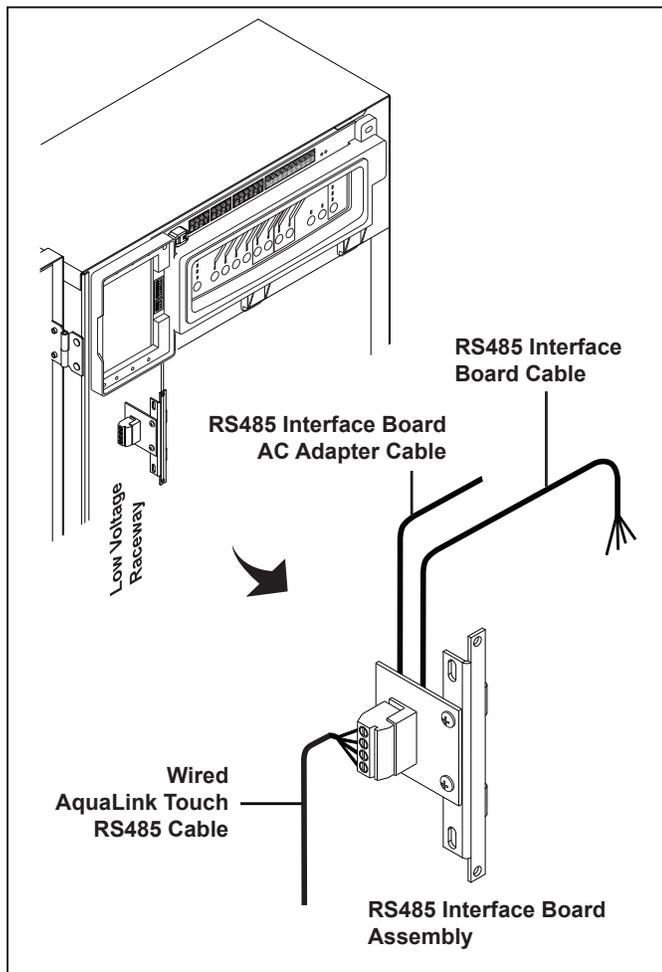

Figure 9. Installation of the RS485 Interface Board in the Low-Voltage Raceway
7. Secure the RS485 interface board and mounting bracket inside of the power center can in the low voltage raceway. See Figure 9.
8. Remove the red, 4-pin terminal bar from the power center PCB and bezel assembly and secure each of the four (4) color wires of the RS485 interface board cable to their corresponding color into the 4-pin terminal bar. Reconnect the 4-pin terminal bar to the power center PCB and bezel assembly.
9. Remove the red, 4-pin terminal bar from the RS485 interface board and secure the AquaLink Touch RS485 four (4) color cable to the red, 4-pin terminal bar. Reconnect the 4-pin terminal bar to the RS485 interface board.